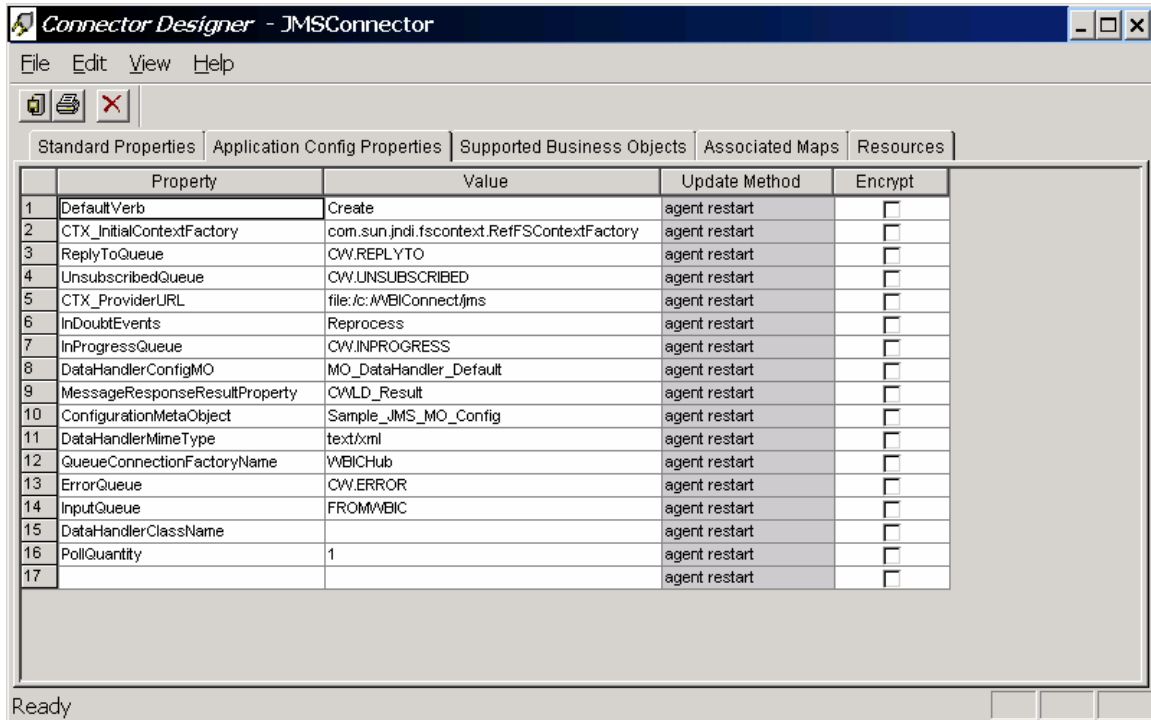

Figure 14. Sample JMS adapter configuration
1. Install and configure the JMS Adapter. See Figure 14 for a sample of configuring the JMS adapter.